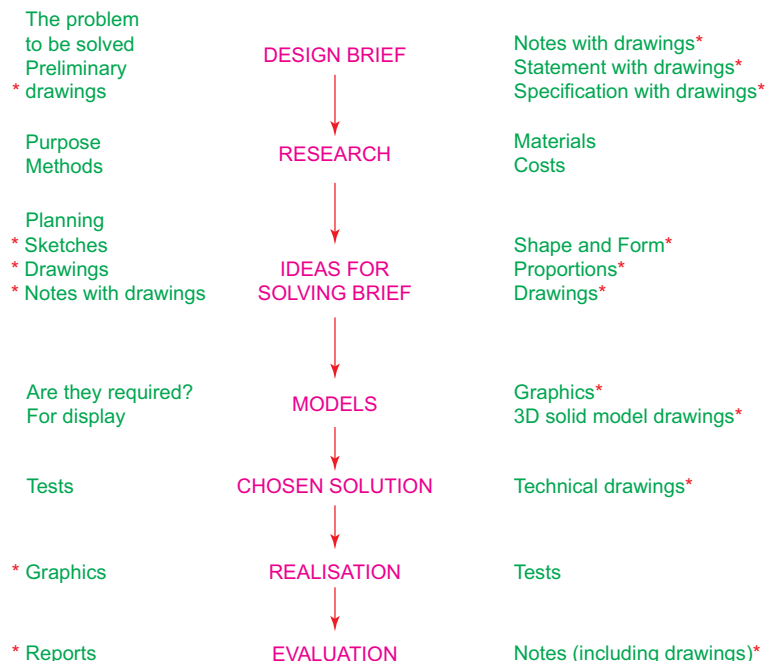

Fig. 21.1 A simplified design chart
In the simplified design process chart shown in Fig. 21.1 an asterisk (\*) has been shown against those features where the use of AutoCAD 2010 can be regarded as being of value.
## A design chart (Fig. 21.1)
The simplified design chart Fig. 21.1 shows the following features:
**Research:** The need to research the various problems which may arise when designing is often much more demanding than the chart (Fig. 21.1) shows. For example, the materials being used may require extensive research as to costing, stress analysis, electrical conductivity, difficulties in machining or in constructional techniques and other such features.